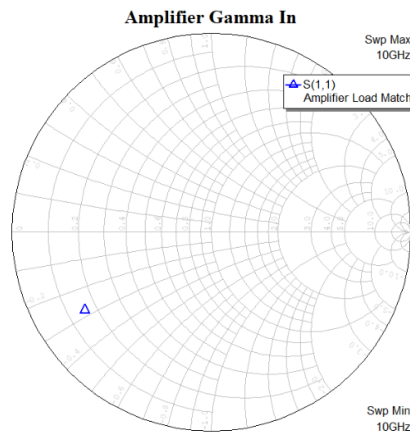

Fig. 8 Input reflection coefficient of the circuit from Fig. 7.
- Set the LTUNER to produce reflection $\Gamma_{LZ} = 0.2\angle 153^\circ$ and show S_{11} of this circuit in the Smith Chart as shown in Fig. 8.